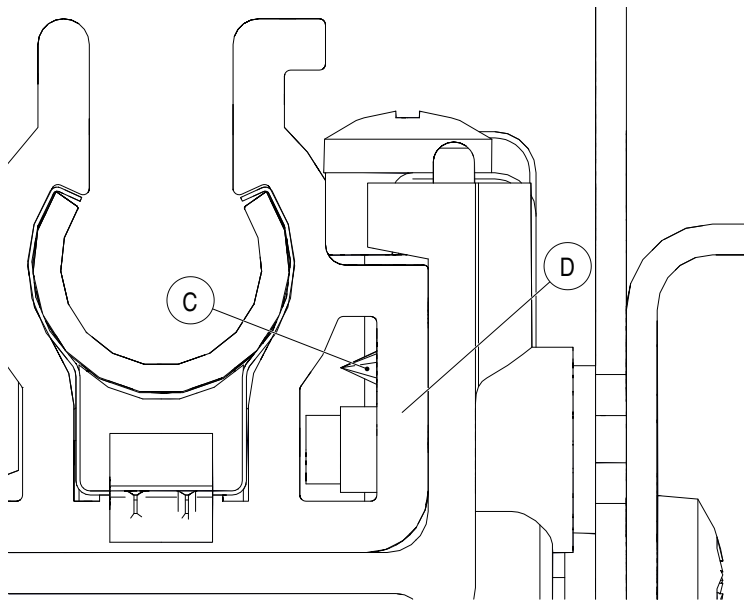
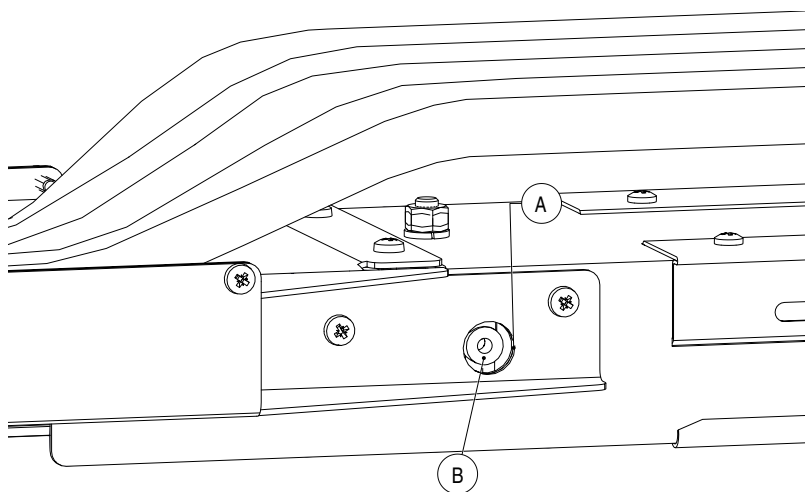

Fig. 77: Drill through first insulating profile wall for anchor point screw
Fig. 78: Pre-drill for fillister head screw
1. The insulating profile must be drilled out for the fillister head screw (C), which ensures the fastening of the conductor rail system. For this purpose, drill through the transverse bore of the anchor point (B) and the first insulating profile wall (D) with a drill  $\varnothing 3.2$  mm. The conductor bar must not be damaged. The fastening frame has an extra hole (A) for this purpose, so that the conductor rails can be drilled in the hung state (see Fig. 77 and Fig. 78).